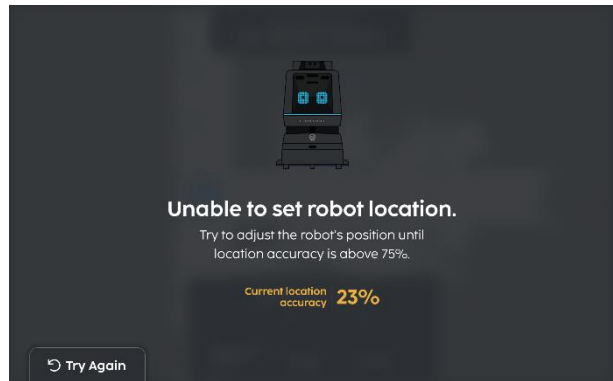

Fig. 5
4. If localizations failed select 'Try Again' (Fig 5).